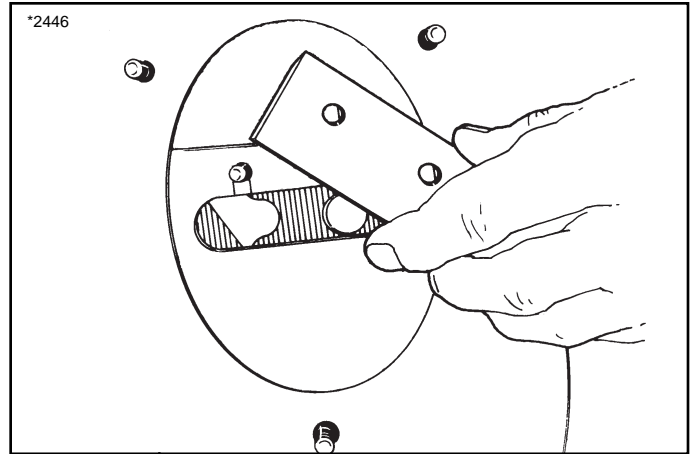

Figure 32. Removing Chipper Knife Through Front Opening
5. See Figure 32. Remove both knives through the opening in the front of the chipper/shredder, and sharpen equally or replace both blades to ensure proper balancing and correct chipping action.